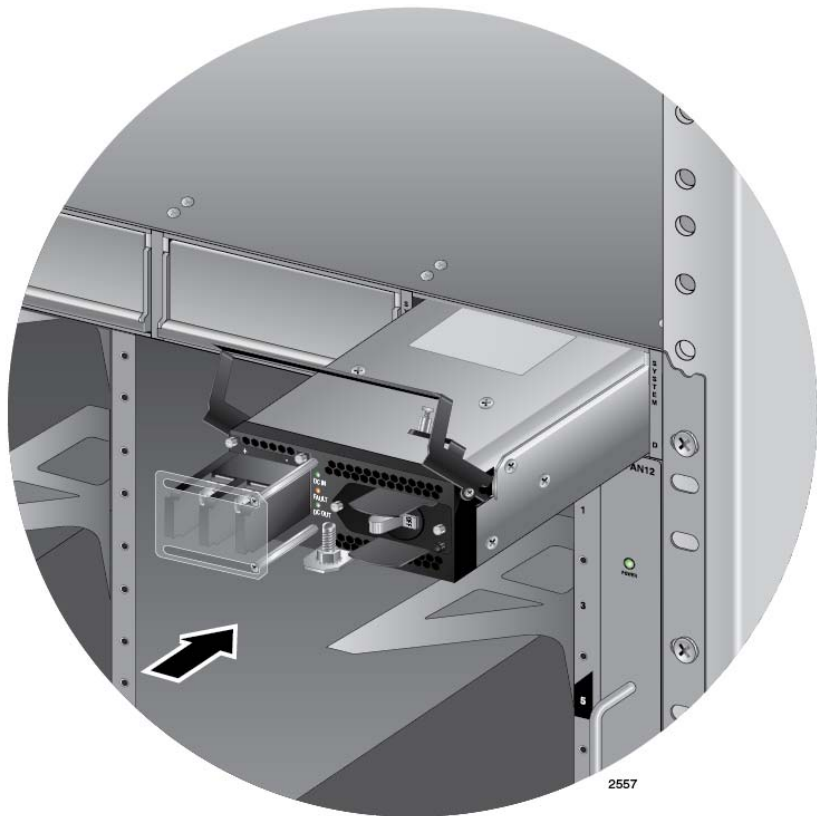

Figure 67. Inserting the AT-SBxPWRSYS1 DC Power Supply
6. Align and insert the AT-SBxPWRSYS1 Module into slot C or D. Figure 67 on page 111 shows the power supply installed in slot D.